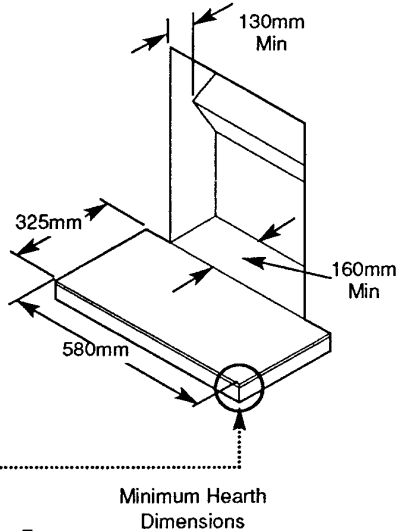

Fig. 7
1. The fire is intended to be hearth mounted only. The hearth must be of a non-combustible material at least 13mm (1/2 in) thick and measuring at least 325 mm (1 2 7/8 in) deep by 580mm (22 27/32 in) wide. It must be fitted central to the fireplace opening. The top surface of the hearth should be a minimum of 50mm (2 in) above floor level (Fig. 7).